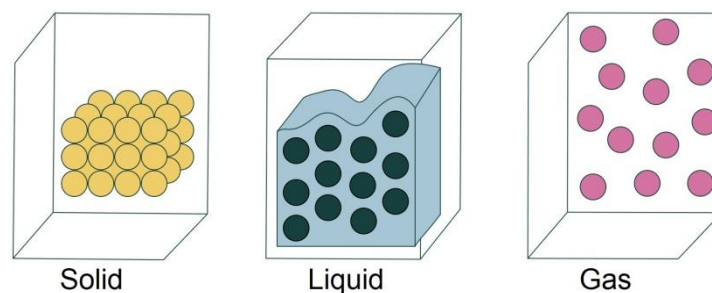

Figure.1: Atoms arrangement in solid, liquid, and gas
- 1. Structure of Materials:** Materials science studies the atomic and molecular structure of materials. Depending on the composition of the material, whether it is solid, liquid, or gas, the study of structure includes atom arrangement, grain boundaries, crystal structure, etc. As shown in **Figure.1**.